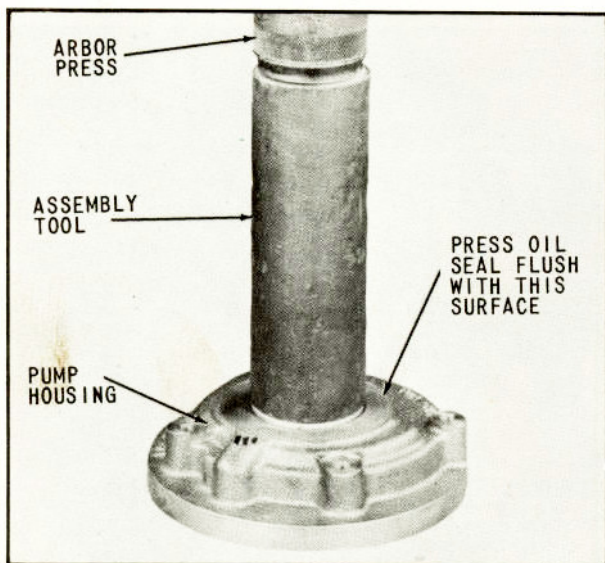

Fig. 90 Pressing Oil Seal
7. Using an arbor press and suitable tool, press seal into housing until front face of seal is flush with front face of pump housing, (Fig. 90).